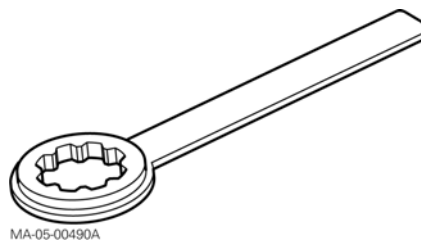

Fig. 9
- **3378082 M1:** - Locking tool - Layshaft (Fig. 9)